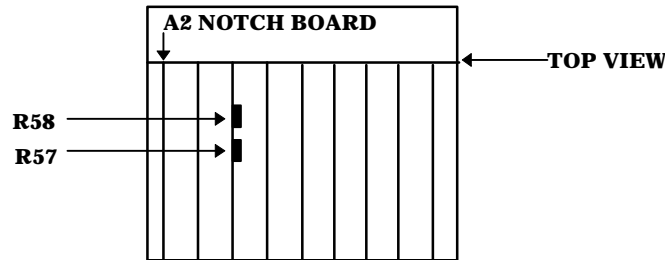

Figure 4. Distortion measurement - adjustment locations.
- (1) Connect TI **OUTPUT HIGH** to **INPUT HIGH** and **OUTPUT LOW** to **INPUT LOW**.
- (2) Press keys and enter values using **DATA ENTRY** keys as listed in (a) through (d) below:
- (3) Adjust A2R57 and A2R58 (fig. 4) for minimum distortion indication on TI.